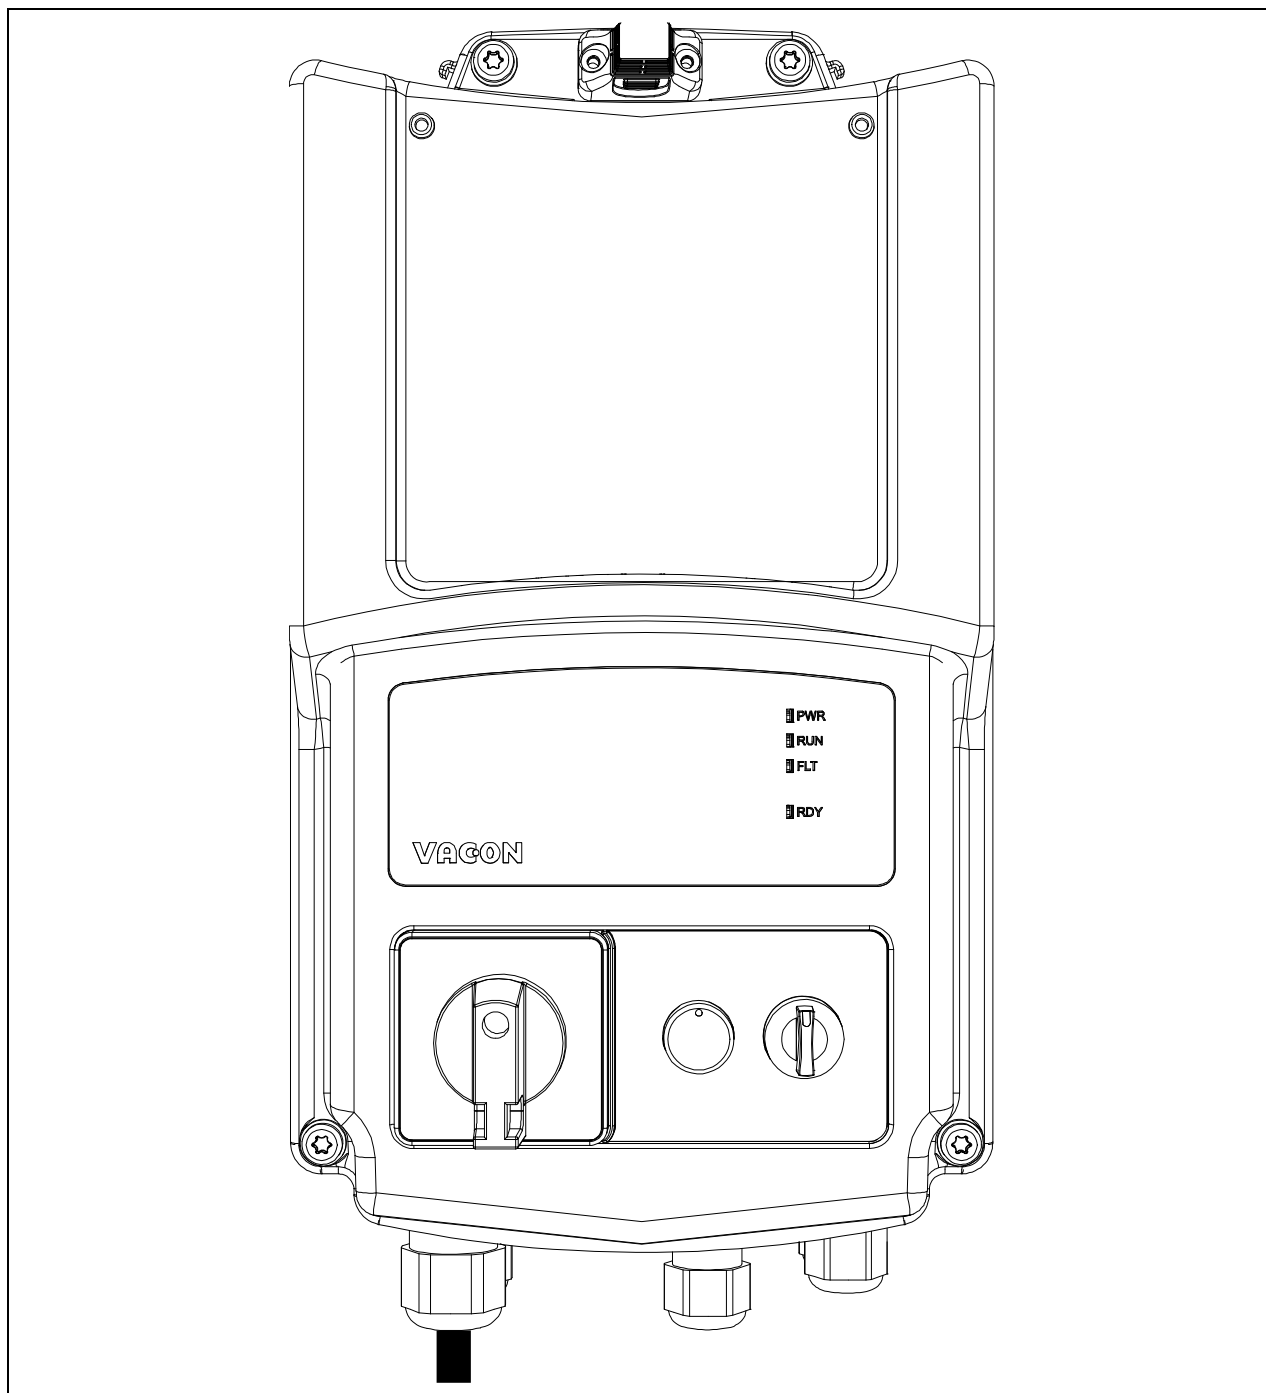

Figure 69. Mount the plastic cover.
- Mount the plastic cover onto the drive with its screws and the HMI cap: the installation process has been completed. See Figure 69.